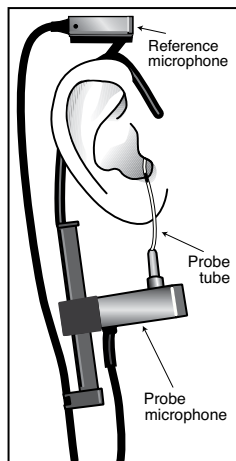
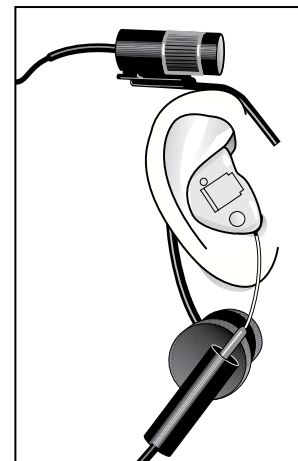

Figure 4.2.4B
Figure 4.2.4D
Hints: To help keep the probe tube in place, position the tube so that it runs through the tragal notch, resting against the lower edge of the tragus (Figure 4.2.4B) If necessary, adjust the integrated microphone for better positioning. If desired, use surgical tape to hold the tube in position.
NOTE: Figures 4.2.4B and 4.2.4C contain pictures of the integrated probe microphone. The probe microphone setup with the older style M300 separate probe microphone set is shown in Figure 4.2.4D.
1. Place the integrated probe microphone on the client's ear. See Figure 4.2.4B.